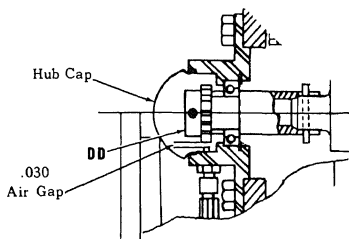

FIGURE 27
18. Figure 27. In reassembly of the magnetic pick-up to the gear (DD), the pick-up must be adjusted to have an air gap of 0.30, then secure with lock nut. Inflate tires to 25-28 PSI SP848. Check tire pressure weekly thereafter.